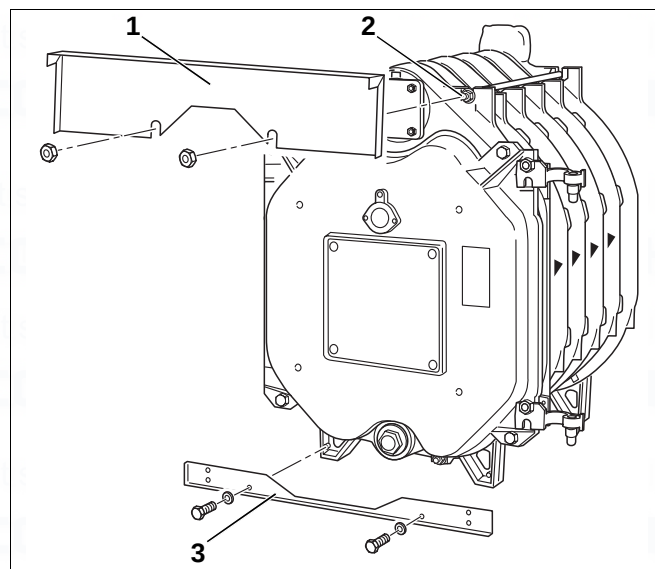

Fig. 30 Installation – front connection plates
- ▶ An additional nut must be turned on each of the two upper anchor rods on the front of the boiler (Fig. 30, [2]).
- ▶ Insert the top front cross bar (Fig. 30, [1]) between the first and second nut of the anchor rods in each case and fasten to the cast lugs.
- ▶ Screw the bottom front cross bar (Fig. 30, [3]) with two machine screws to the feet of the boiler front section.